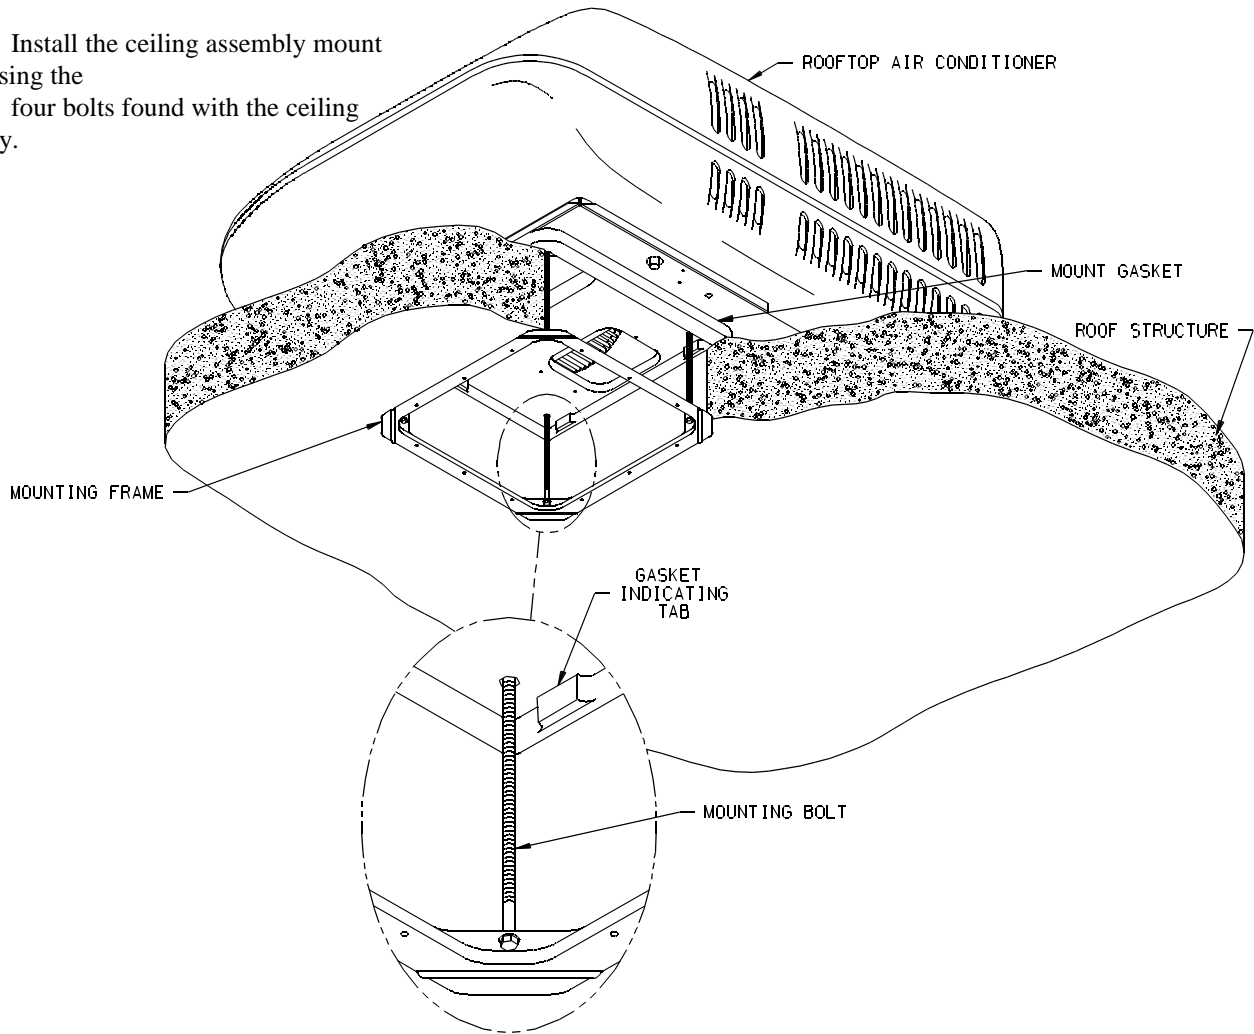

FIGURE 5
A mounting frame is supplied with the ceiling assembly. Follow the steps below to secure the heat pump to the roof. Refer to Figure 5.
C. Proper tension has been achieved for each bolt when any portion of each gasket indicating tab has been pulled down even with the roof. See Figure 5. The upper unit has now been properly installed with optimum gasket compression.